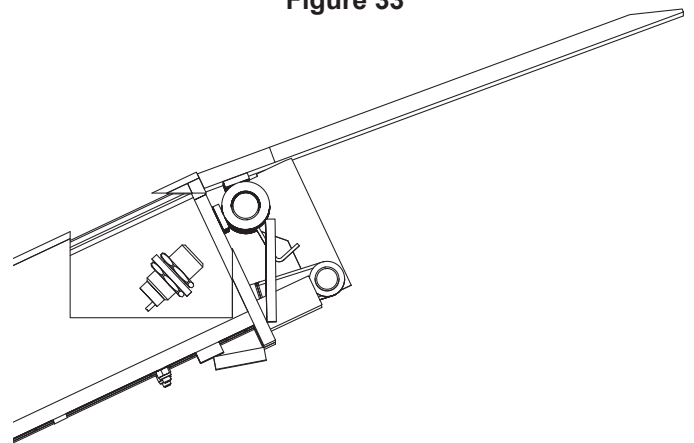
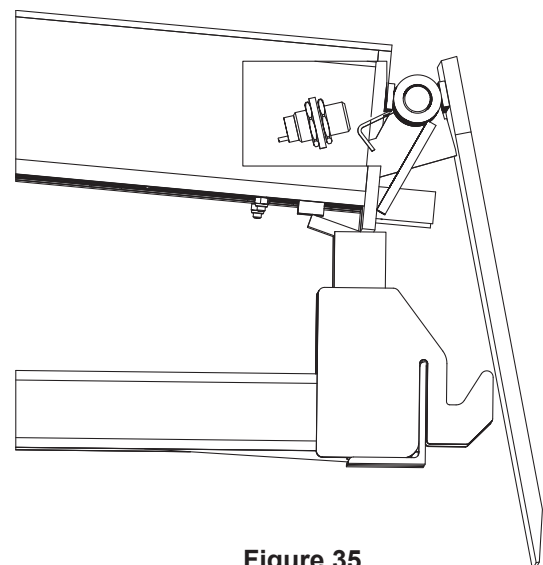

Figure 34
Figure 35
**Not Stored** - Lip plate is outside of lip keepers and or not pendant (not completely folded). Common positions include the Raised Position (**Figure 34**) and Below Dock Position (**Figure 35**). In any condition where the lip is not completely folded, the sensor should not read the target.